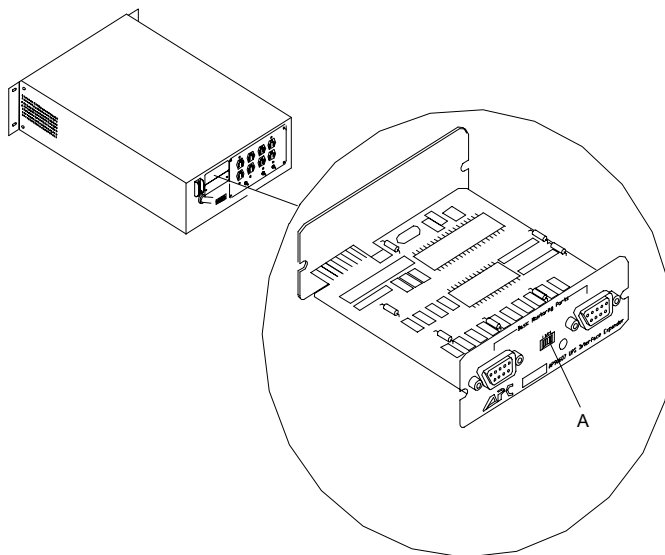

Figure 5-4. Installing the Interface Expander
2. Position the interface expander unit to fit in the UPS accessory slot as shown in Figure 5-4.
- Configuration switch settings (Figure 5-4, A); see Section 7 of the UPS Interface Expander Accessory document, and